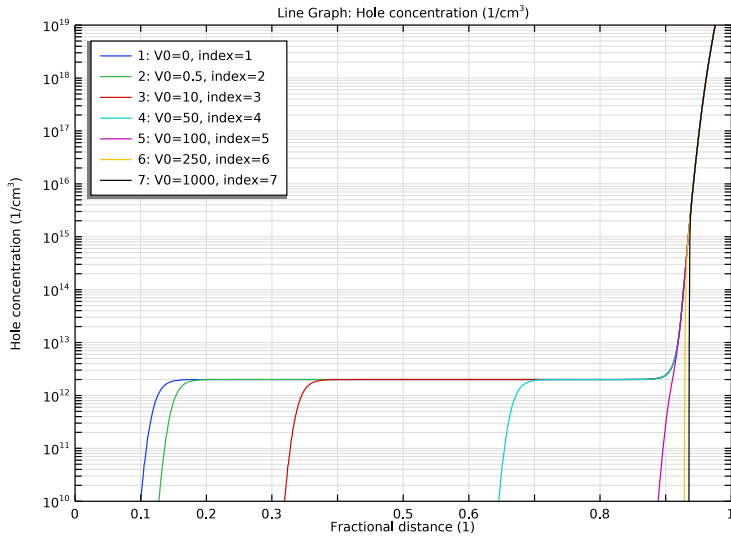
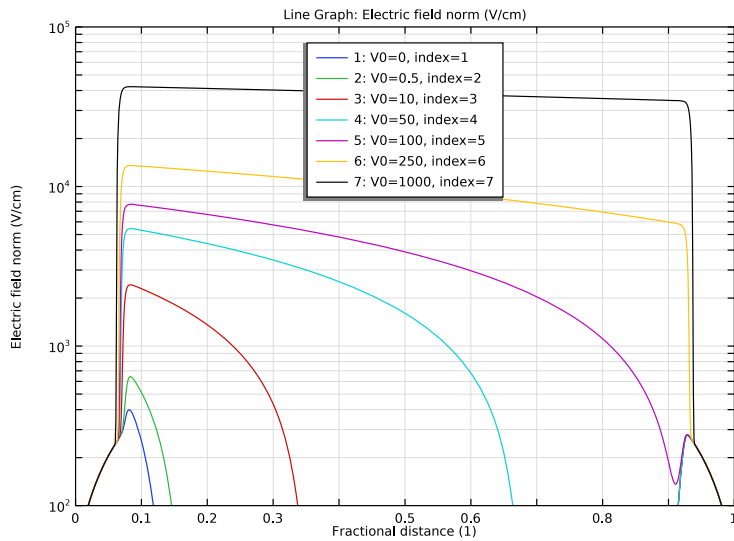

Figure 2: Hole distribution at various reverse bias voltages.
Figure 3: Electric field distribution at various reverse bias voltages.
Following Ref. 1, the PIN diode is constructed from a 300  $\mu\text{m}$  thick silicon wafer with heavy doping diffused into its two faces. The doping profile is shown in Figure 1, with parameters guessed from Fig. 3 of Ref. 1. As mentioned in the paper, recombination does not play a major role but is still included for completeness with a carrier lifetime of 100  $\mu\text{s}$ . Maxwell-Boltzmann statistics is used as suggested by Eq. (4) and (5) in Ref. 1.
Figure 2 and Figure 3 show the hole distribution and electric field distribution at various reverse bias voltages, which compare well with Fig. 4A and 4B in the reference paper, respectively.